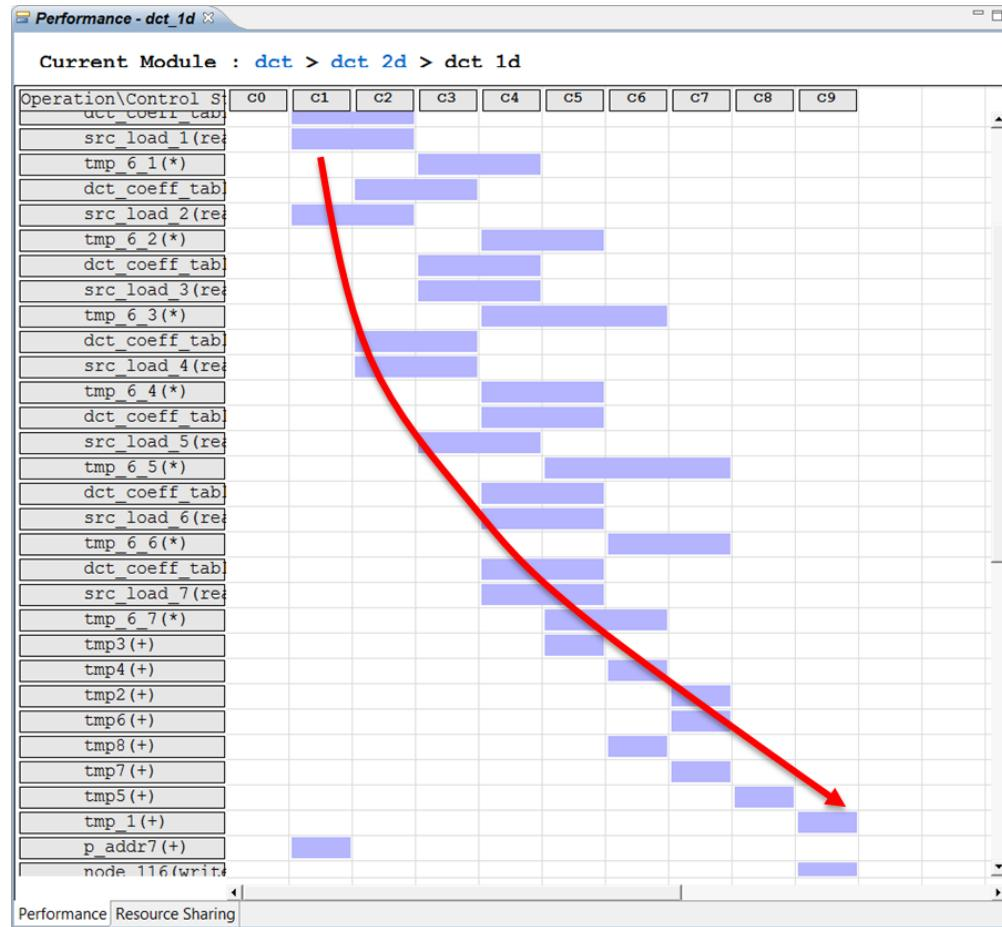

Figure 129 Analysis of dct_1d RD_Loop_Row
13. Expand the DCT_Outer_Loop to see the view shown in Figure 129.
Figure 129 shows a very different view from the earlier loop schedules (which had only a few cycles of latency). The schedule shows a long drift from input to output (as shown by the red arrow).